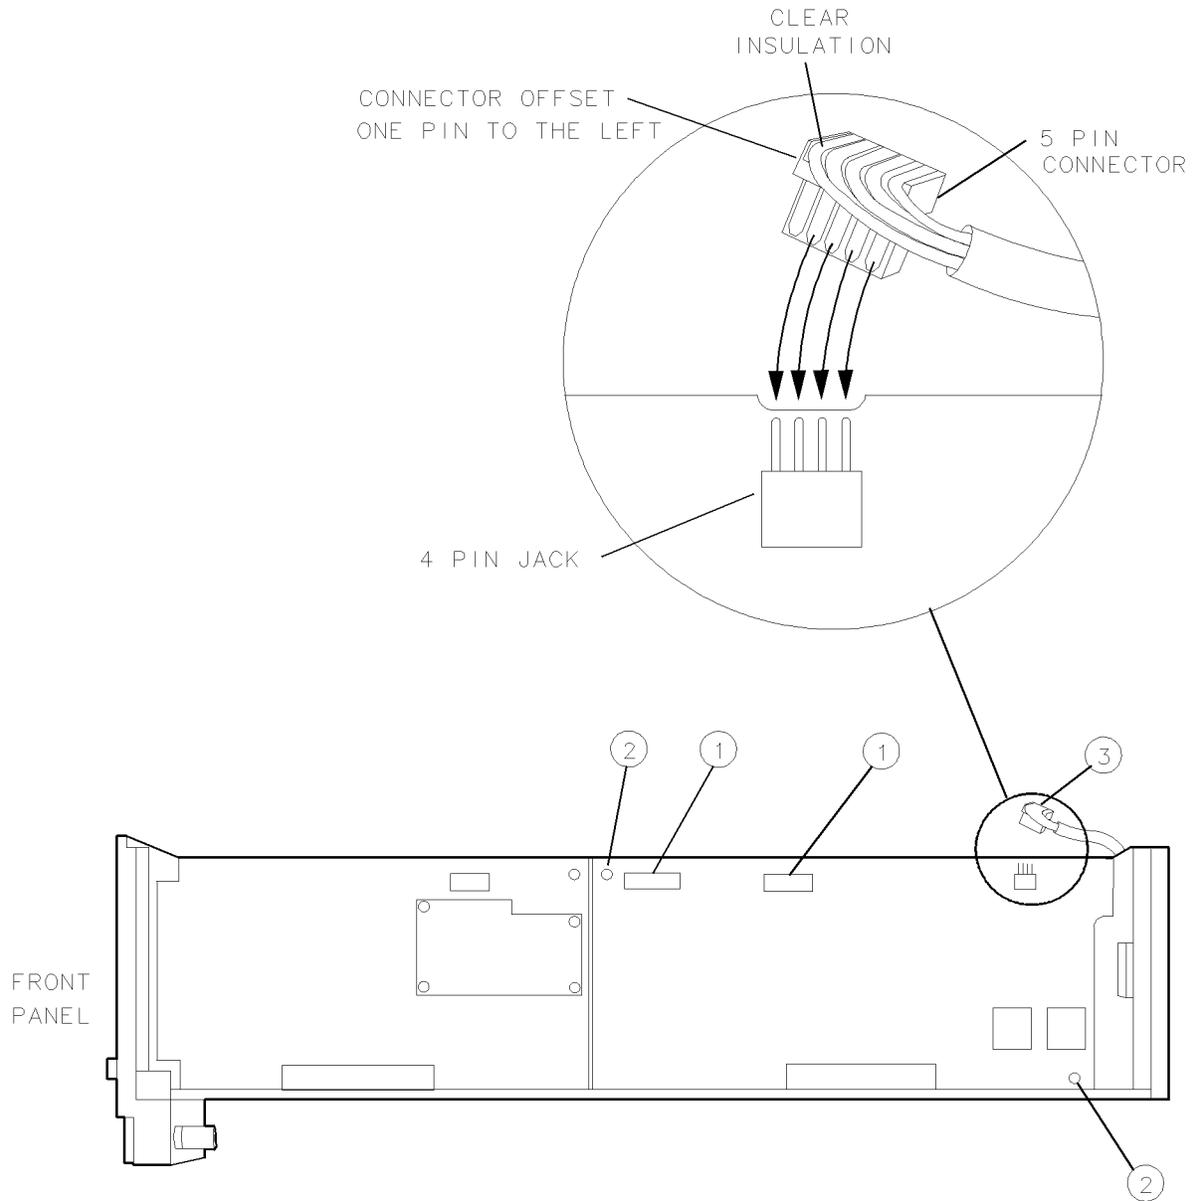

Figure 9-3. A3 Power Supply Removal/Replacement
2. Disconnect the A11 wiring harness from the two connectors ① on the A3 power supply. See Figure 9-3.
3. Remove the screws ② from the assembly.
4. Carefully work the assembly out of its motherboard connector. When it is just out of the connector, disconnect W20 ③.
2. Replace the screws ② in the assembly. Torque screws to 6 inch-pounds.
3. Reconnect the two A11 wiring harness connectors ① and W20 ③. W20 is a brown/orange/red/yellow twisted-wire pair. W20 has a 5-pin connector that plugs into a 4-pin jack. W20 should be offset one pin to the left, as shown in Figure 9-3. W20's clear wire should not be connected to a pin. (The clear wire is an unused ground; if W20 is plugged in incorrectly, overcurrent conditions will be indicated on the mainframe.)